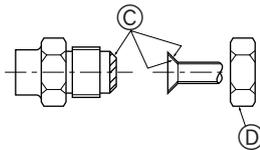

Fig. 4-1
4.2. Connecting pipes (Fig. 4-1)
- Apply thin layer of refrigerant oil to pipe and joint seating surface before tightening flare nut. ①
- Use two wrenches to tighten piping connections. ②
- Apply refrigerating machine oil over the entire flare seat surface. ③
- Use the flare nuts as follows. ④
Table 1 (Fig. 4-1)